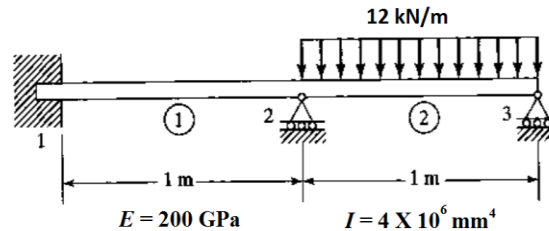

Figure. 3
- (OR)
- c) For the beam shown in the figure 3, determine the slopes at node 2 and node 3 and vertical deflection at the midpoint of the distributed load. (8M)